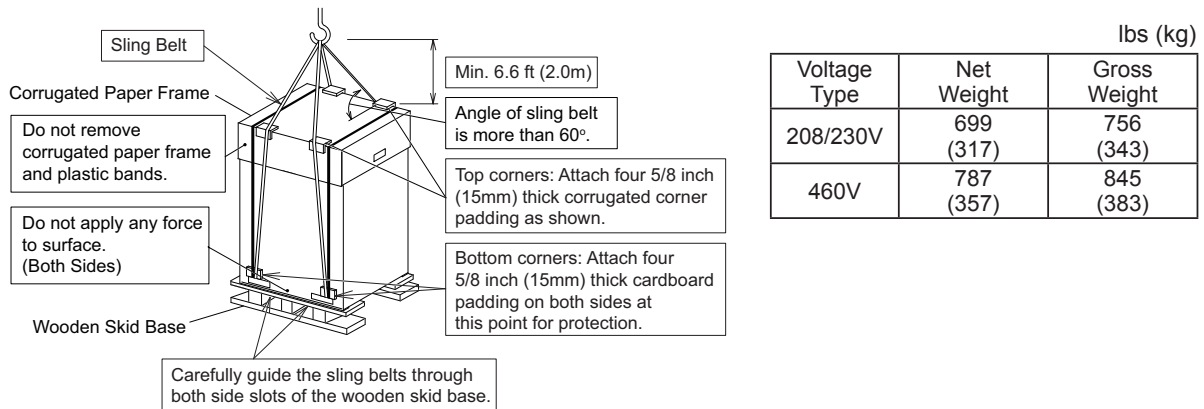

Figure 5.1 Hanging Unit on Wooden Skid Base for Transportation
- (1) Suspend the unit (with wooden skid base) in its packing with two sling belts as shown in Figure 5.1.
- (2) Do not use banding wire.
- (3) Ensure that the unit is balanced.
- (4) Ensure safety while hoisting the unit gently in order not to cause the unit to tip.